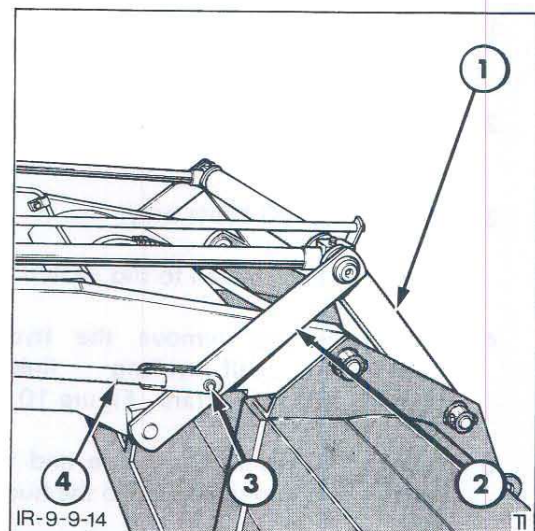

Figure 9
1. Position the bucket on the ground with the open side down (full dump position), Figure 9.